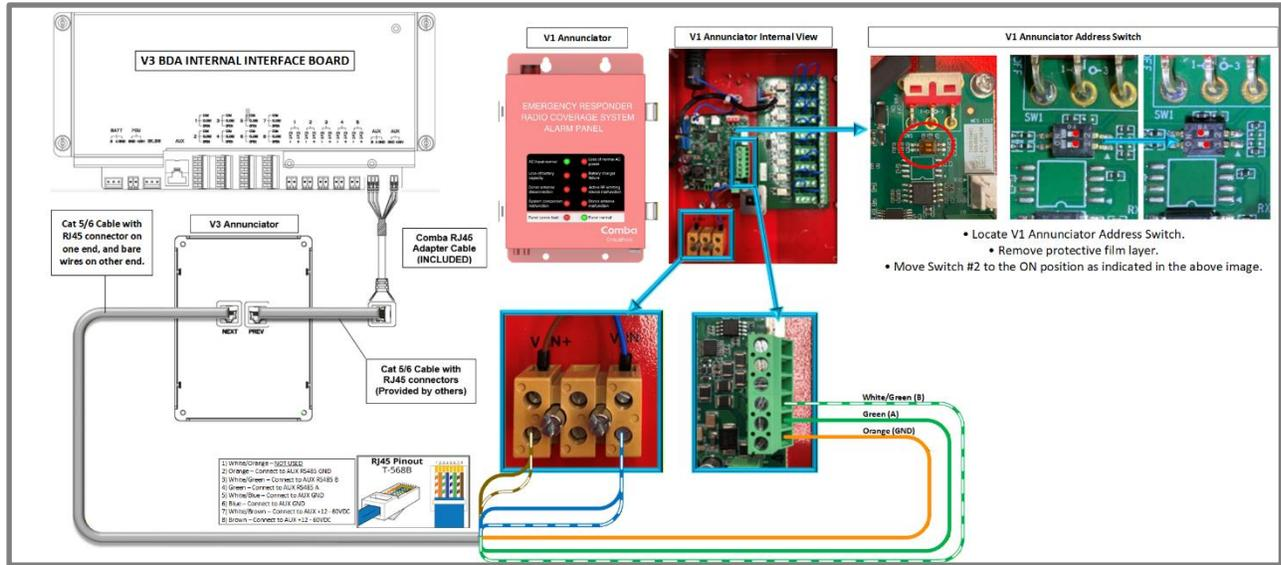

Figure 46: APV3-BDA – Wiring Diagram – Cascading a V1 AP from APV3-BDA
The APV3-BDA supports daisy-chaining of a Comba Version 1 Annunciator Panel (V1 AP). This configuration enables a single APV3-BDA to be installed at a location requiring local LED indication and audible (buzzer) notification, while a V1 AP may be daisy-chained from the APV3-BDA and installed within the room housing the Fire Alarm Control Panel (FACP) interface. The V1 AP provides eight (8) dry-contact alarm outputs, seven (7) of which are configurable, allowing delivery of IFC- and NFPA-required alarm signals to the fire alarm system. The commissioning process is the same when cascading a V3 AP or a V1 AP. Refer to the commissioning sections for more details. Refer to Figure 46 below for detailed wiring information.